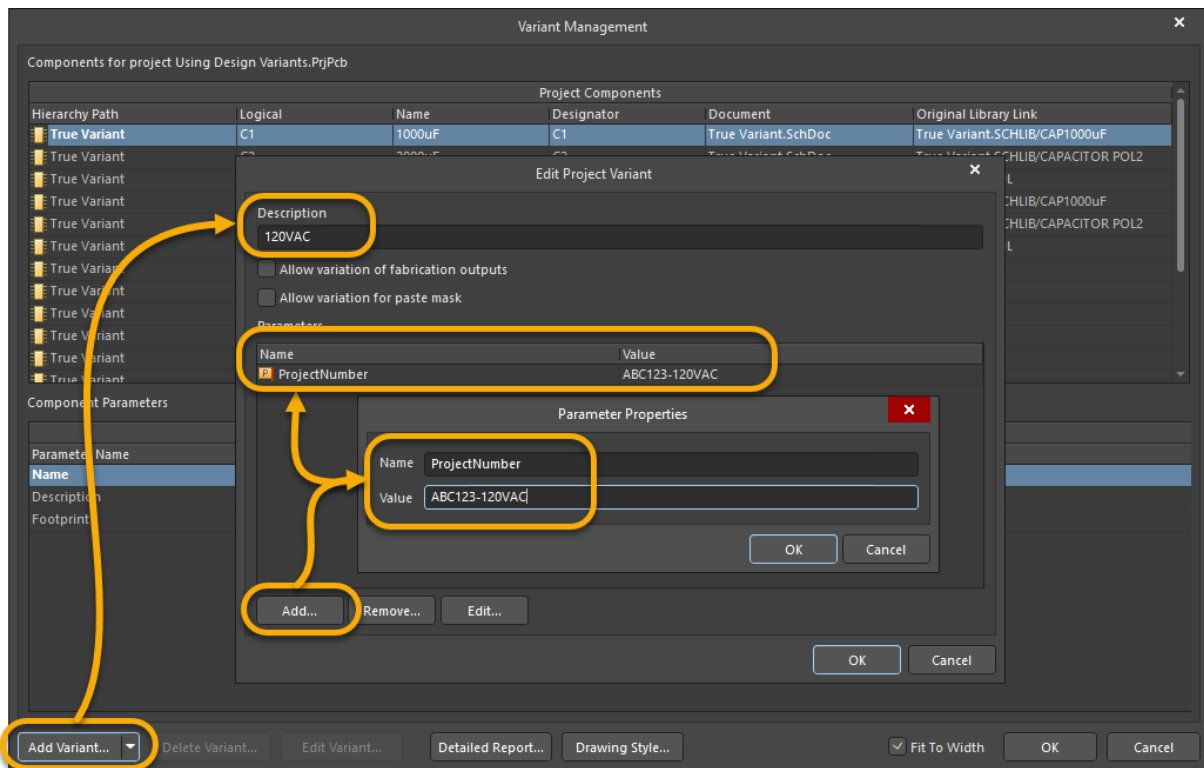

Figure 2. Creating New Variants
- We will be creating two new variants for this project. Use Figure 2 below as a reference.
- In the *Description* field, we will name the first variant as `120VAC` as shown in Figure 2.
- Click the **Add...** button to add a parameter as shown in Figure 2.